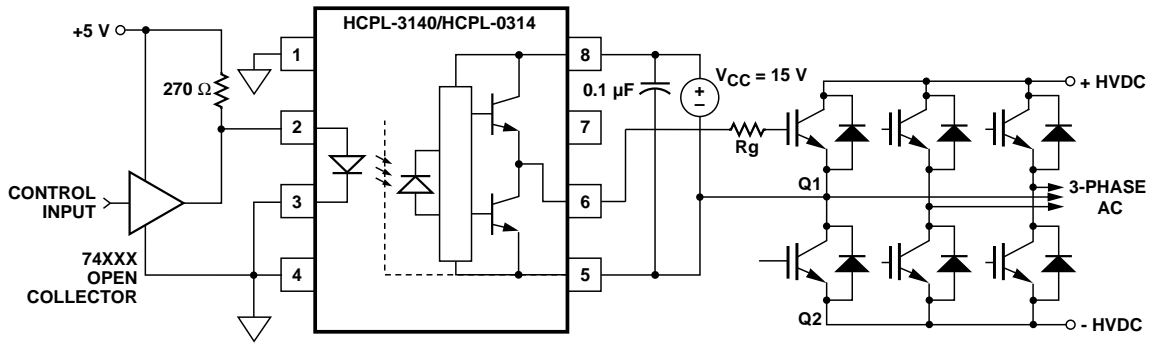
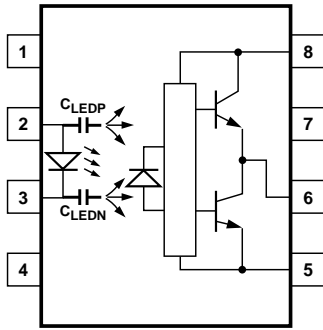
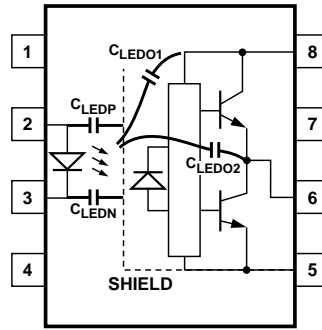

Figure 19. Recommended LED Drive and Application Circuit for HCPL-3140/HCPL-0314.
Figure 21. Optocoupler Input to Output Capacitance Model for Unshielded Optocouplers.
Figure 22. Optocoupler Input to Output Capacitance Model for Shielded Optocouplers.
HCPL-3140/HCPL-0314 on a small PC board directly above the IGBT) can eliminate the need for negative IGBT gate drive in many applications as shown in Figure 19. Care should be taken with such a PC board design to avoid routing the IGBT collector or emitter traces close to the HCPL-3140/HCPL-0314 input as this can result in unwanted
Step 1: Calculate R_g minimum from the I_{OL} peak specification. The IGBT and R_g in Figure 19 can be analyzed as a simple RC circuit with a voltage supplied by the HCPL-3140/HCPL-0314.
where $K_{ICC} \cdot Q_g \cdot f$ is the increase in I_{CC} due to switching and K_{ICC} is a constant of 0.001 mA/(nC*kHz). For the circuit in Figure 19 with I_F (worst case) = 10 mA, R_g = 32 Ω, Max Duty Cycle = 80%, Q_g = 100 nC, f = 20 kHz and T_{AMAX} = 85°C:
Without a detector shield, the dominant cause of optocoupler CMR failure is capacitive coupling from the input side of the optocoupler, through the package, to the detector IC as shown in Figure 21. The HCPL-3140/HCPL-0314 improves CMR performance by using a detector IC with an optically transparent Faraday shield, which diverts the capacitively coupled current away from the sensitive IC circuitry. However, this shield does not eliminate the capacitive coupling between the LED and opto-coupler pins 5-8 as shown in Figure 22. This capacitive coupling causes perturbations in the LED current during common mode transients and becomes the major source of CMR failures for a shielded optocoupler. The main design objective of a high CMR LED drive circuit becomes keeping the LED in the proper state (on or off) during common mode transients. For example, the recommended application circuit (Figure 19), can achieve 10 kV/μs CMR while minimizing component complexity.
supplied by the LED, and it is not recommended for applications requiring ultra high CMR_L performance. The alternative drive circuit which like the recommended application circuit (Figure 19), does achieve ultra high CMR performance by shunting the LED in the off state.